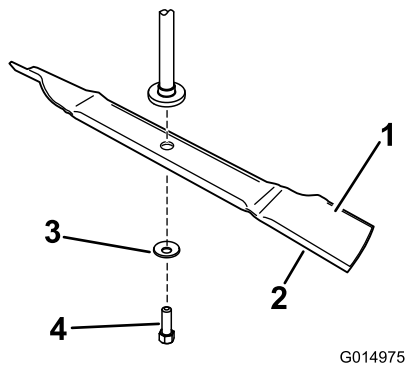

Figure 7
1. Install the blade onto the spindle shaft (Figure 7).
2. Install the curved washer (cupped side toward the blade) and the blade bolt (Figure 7).